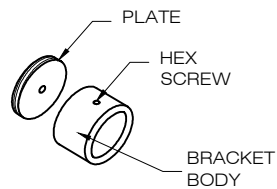

FIG. 5
3. Remove the wall mount bracket assembly (#1) from the structural rail assembly. Unscrew the plate from the bracket assembly body. [SEE FIG.5]